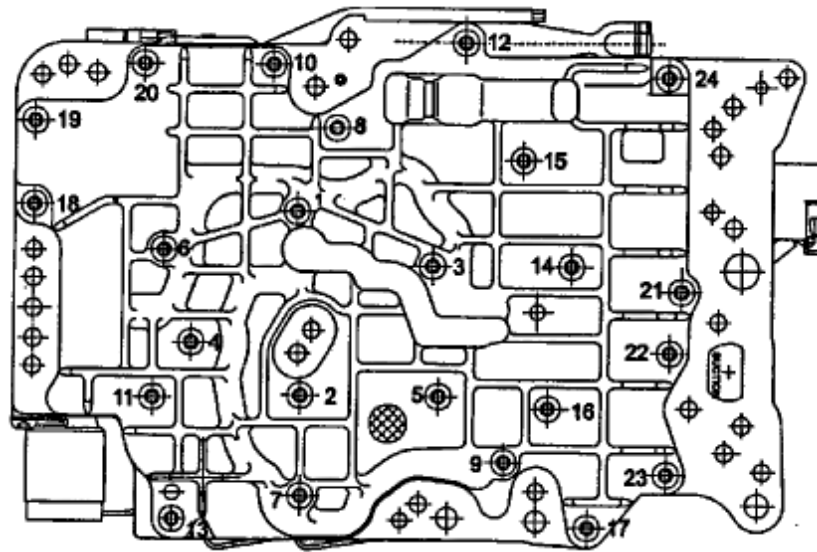

Figure 8.56 The tighten sequence of valve bolt from upper to lower
- p. Lift the separating disk to the upper valve; prevent the detection ball from falling ; install the upper valve on the low pressure valve. Tighten all screws. Refer to Figure 8.56.